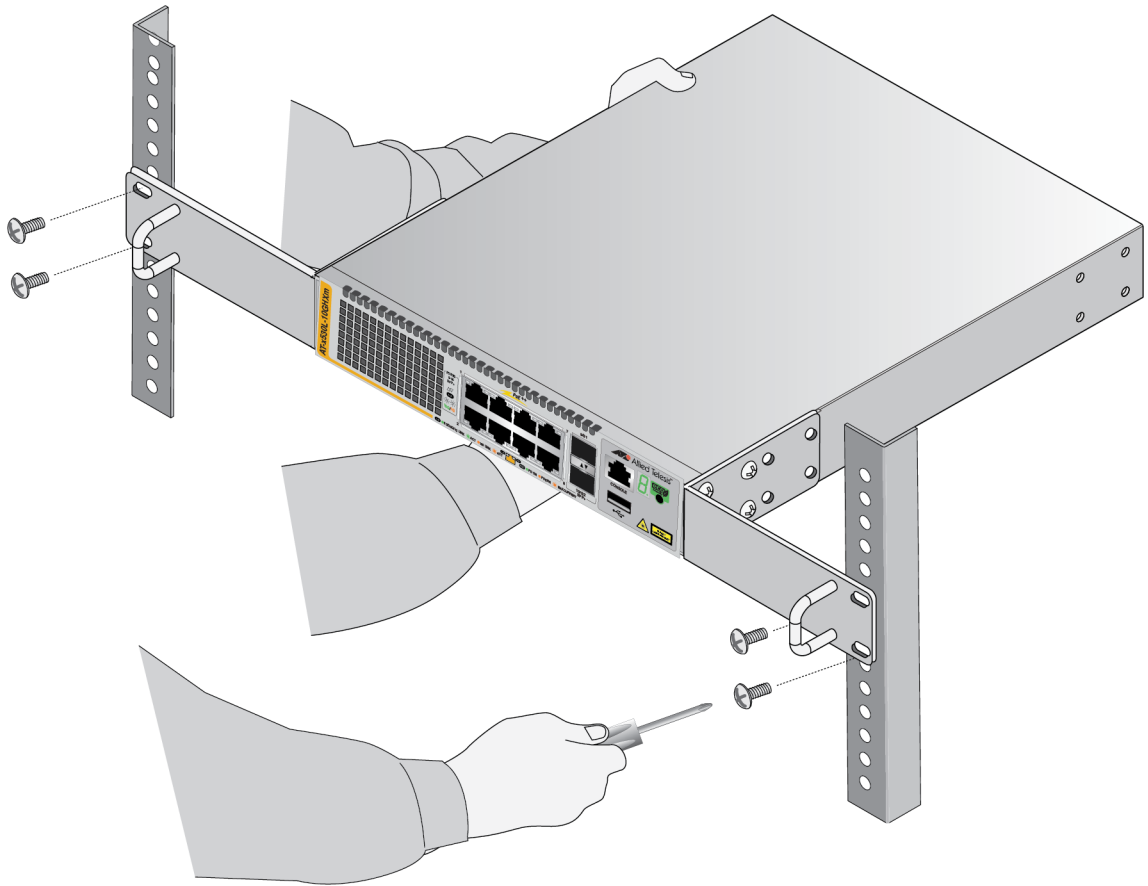

Figure 55. Installing the Switch in an Equipment Rack
4. Have another person hold the switch at the desired location in the equipment rack while you secure it using four standard equipment rack screws (not provided). Refer to Figure 55.